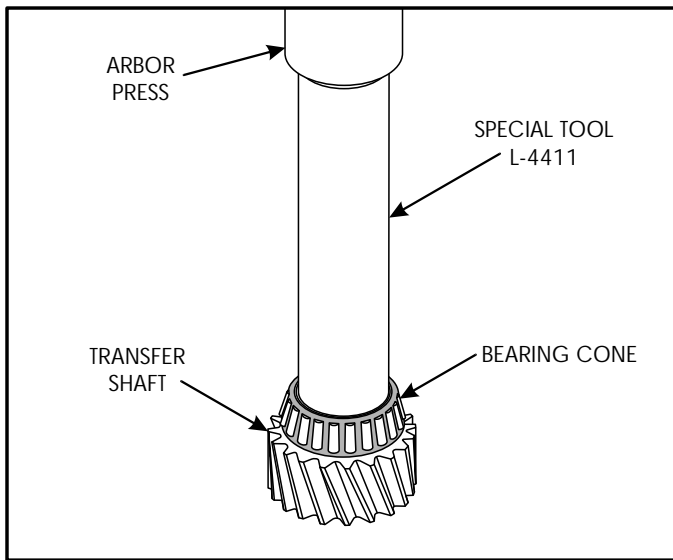

Figure 186
2. Install transfer shaft bearing cone using special tool and arbor press, as shown in Figure 186.